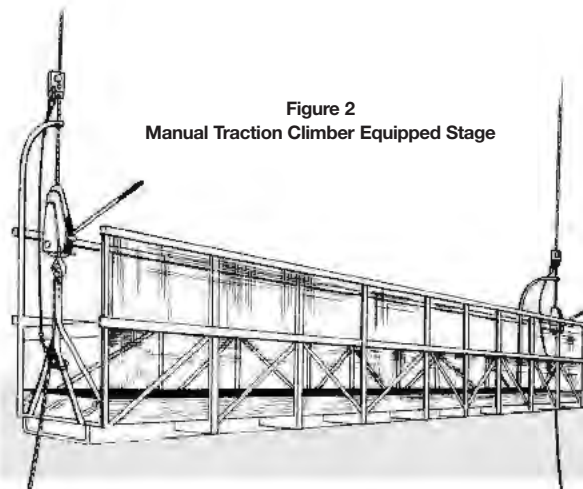

Figure 2
2.2 Manual Traction Climber Equipped Stage (Figure 2)